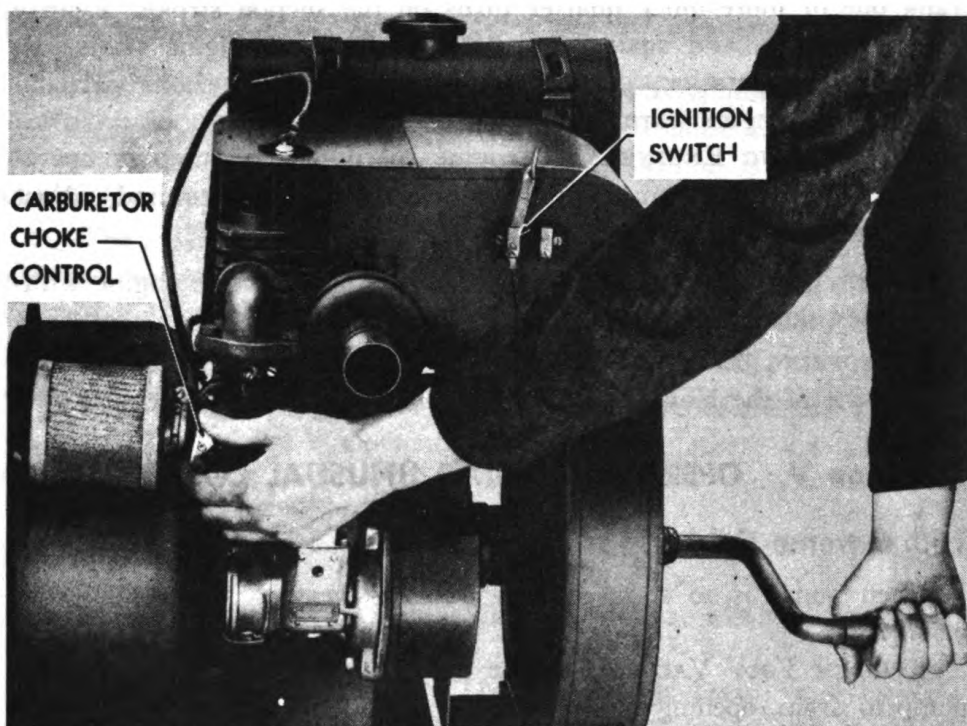

Figure 6. Starting the engine.
a. IGNITION SWITCH (fig. 6). The CA-33 engine has a switch in the ignition line mounted on the left side of the blower housing. The switch must be open before starting in order to short the magneto for stopping. The switch must be closed to stop the engine.
c. **CHOKE** (fig. 6). The choke valve, located on the side of the carburetor, is of the conventional type, with a poppet valve which opens automatically immediately after the engine fires, when the choke is in its fully closed position. The poppet valve prevents overchoking if the hand choke is not released quickly enough.
c. **STOPPING ENGINE.** To stop the engine, close the knife switch on the side of the blower housing. (See fig. 6.)